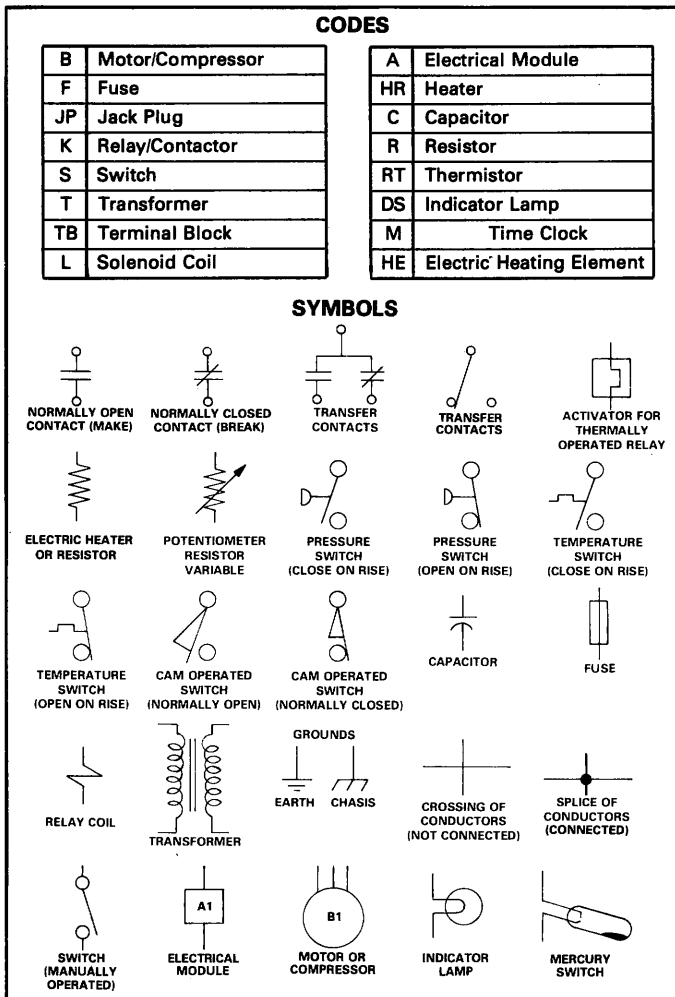

FIGURE 3
- 2 - The graphic symbols for components and code lettering conforms to the "IEEE Standard and American National Standard" of graphic symbols for electrical diagrams. All symbols and code lettering used are approved by the International Electrotechnical Commission (IEC). Refer to Figure 3 for code and symbol identification.